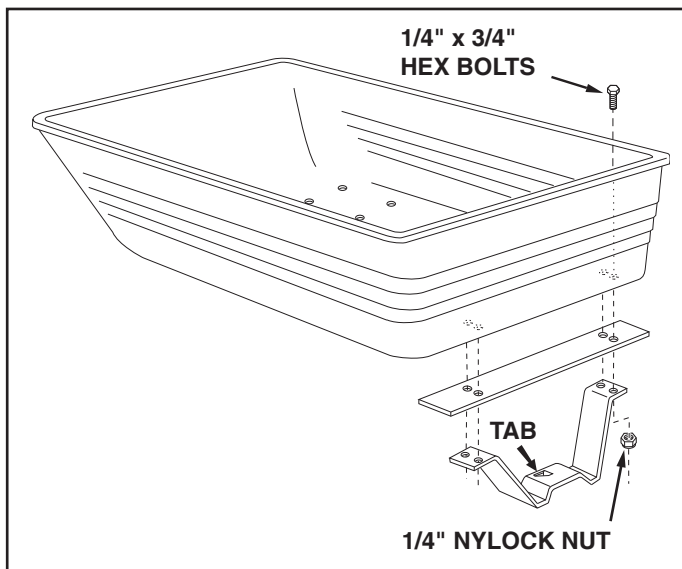

FIGURE 4
- Assemble the latch stand plate and latch stand bracket (with alignment tab toward rear of cart) to the cart tray using four 1/4" x 3/4" hex bolts and 1/4" nylock nuts. Tighten nuts after all bolts are in place. See figure 4.